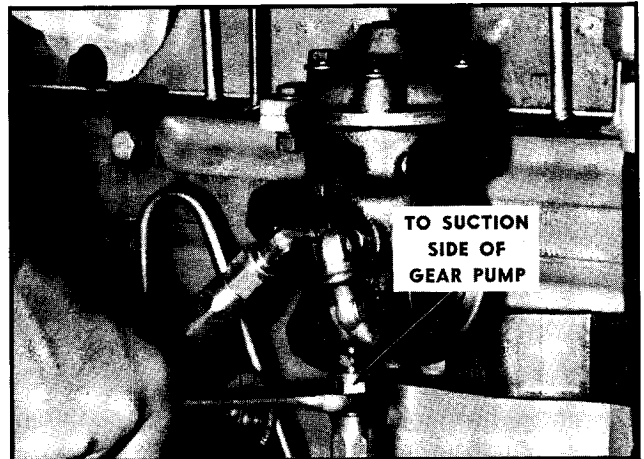

Fig. 12-84. Installing return line to fuel pump
5. Install return line from "out" connection of aneroid to suction side of gear pump. Fig. 12-84.